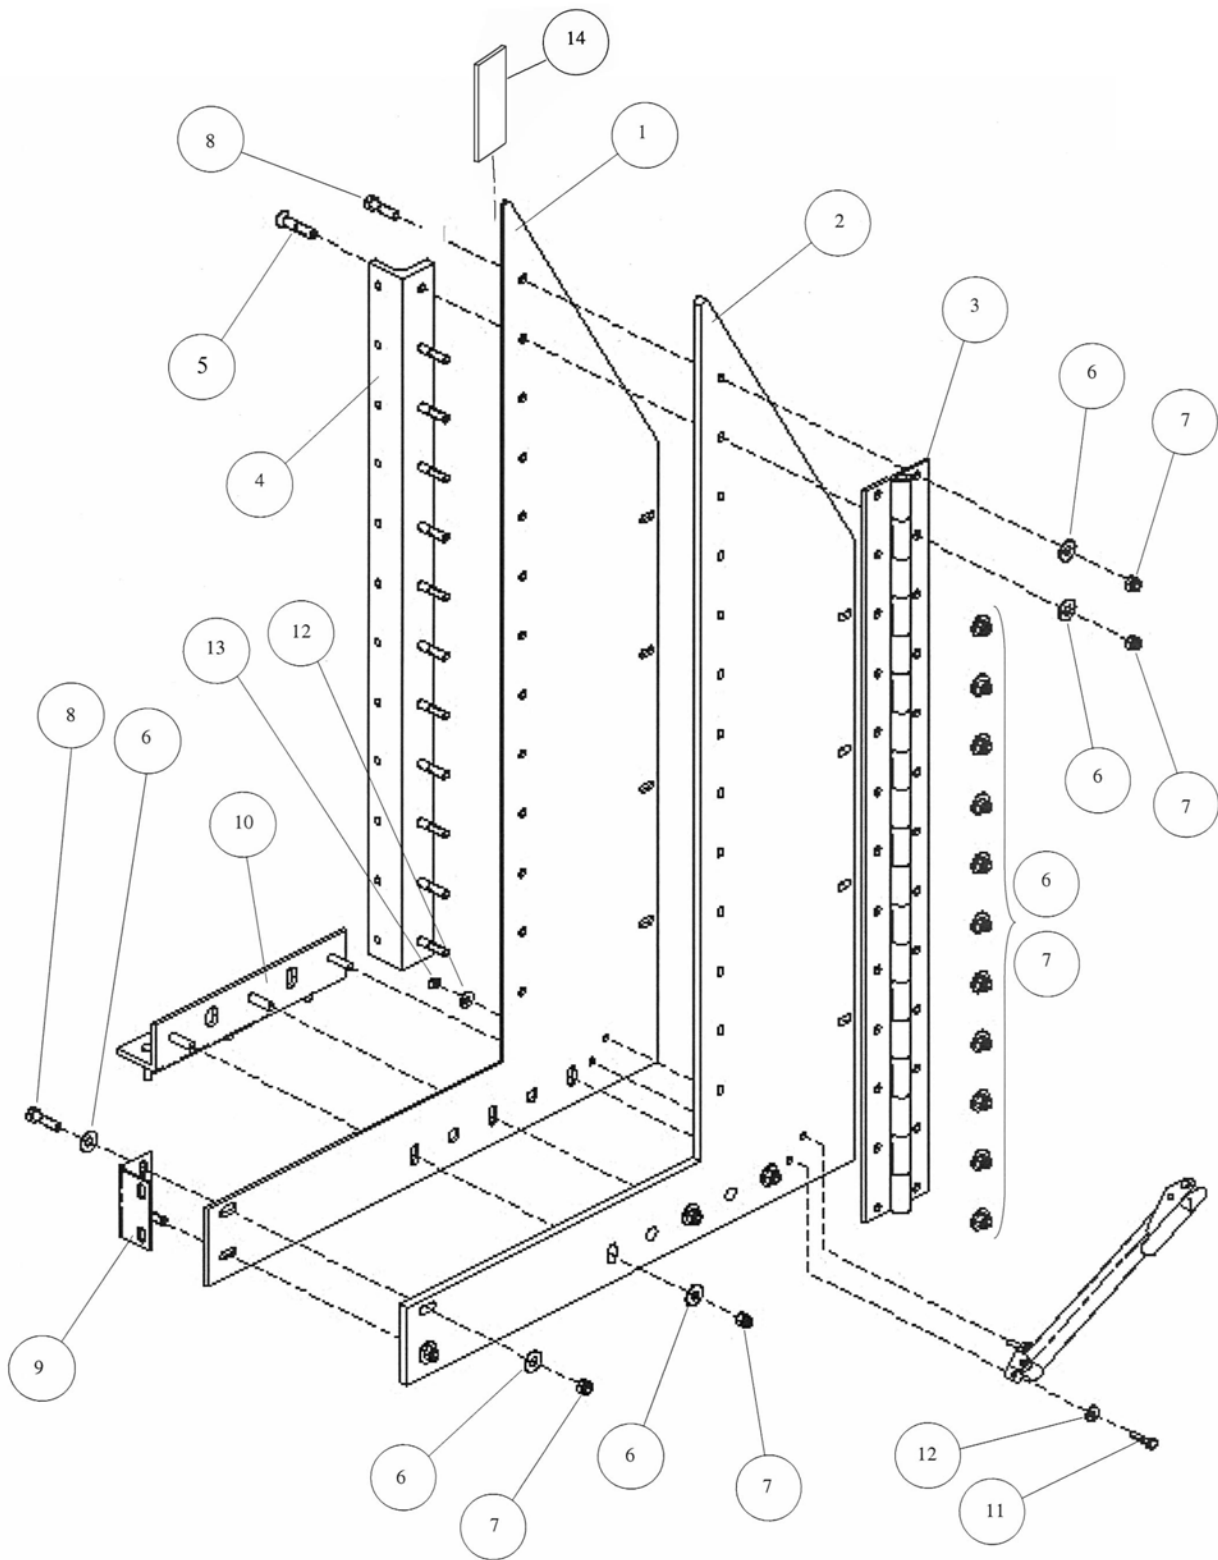

Figure 3-48. Right Side Panels Pre-Assembly.
1. Pre-assemble right side panels as follows (see Figure 3-48):
Ensure that door hinge (3) is oriented as shown in Figure 3-48, and align holes marked "A" with drill bushings.
- a. Align right forward side panel (1) with right forward side panel (2) and install door hinge (3) and hinge bracket (4) and secure with 12 bolts (5), flat washers (6), locknuts (7), one bolt (8), one washer (6), and one locknut (7). Torque locknuts to 35 lb-ft.
- b. Install armor step bracket (9) and secure with two bolts (8), four flat washers (6), and two locknuts (7). Torque locknuts to 35 lb-ft.
- c. Install one 90-degree joiner bracket (10) and secure with three flat washers (6) and locknuts (7). Do not tighten locknuts at this time.
- d. Install hood clamping catch (retained from Teardown, Chapter 2) and secure with two bolts (11), flat washers (12), and locknuts (13). Torque locknuts to 11 lb-ft.
- e. Apply trim seal (14) to the assembly from the top of the hinge bracket (4) to the top of the left forward side panel (1).